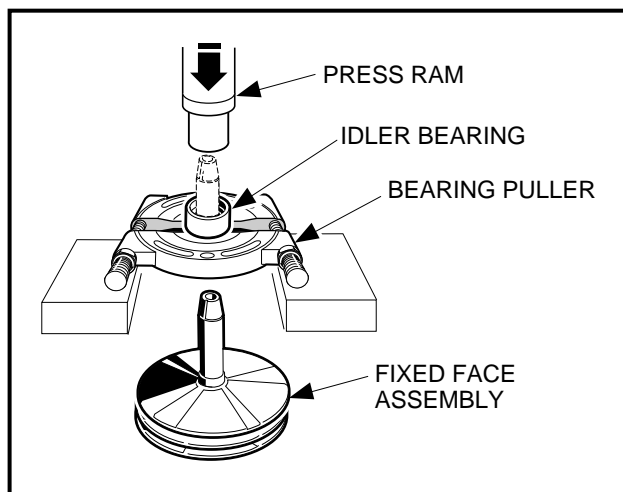

Figure 17-10 Remove Idler Bearing
- If necessary, remove idler bearing. Use a press to remove the bearing (**Figure 17-10, Page 17-9**). See following NOTE.